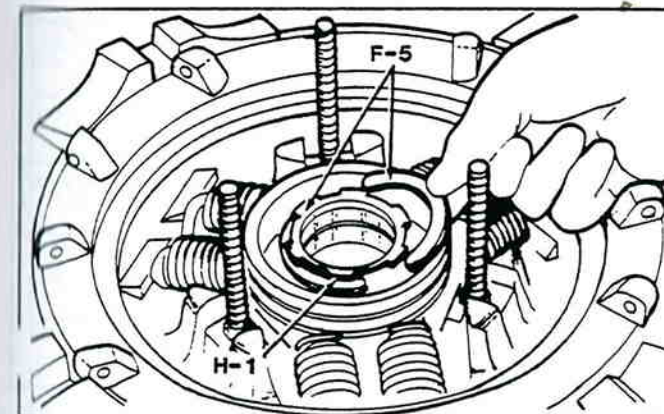

Figure 5-19. Install Half Ring Locks.
6. Install release sleeve and release bearing (G-1) assembly through flywheel ring and release sleeve retainer. Place half ring locks (F-5) in groove of release sleeve (figure 5-19).